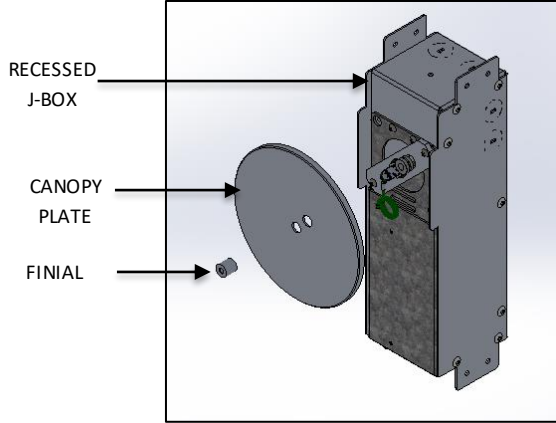

FIG. 6 – FINIAL AND CANOPY DISASSEMBLY
1. Unscrew FINIAL and remove the CANOPY PLATE out of J-BOX as shown in FIG. 6.